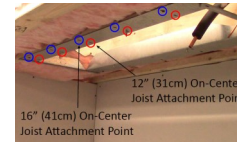

Fig. 2
- A. Cut an opening in the ceiling 41" long x 14.5" wide 16" on center joists, or 41" long x 10.5" wide for a 12" on center joist spacing (Fig. 2).